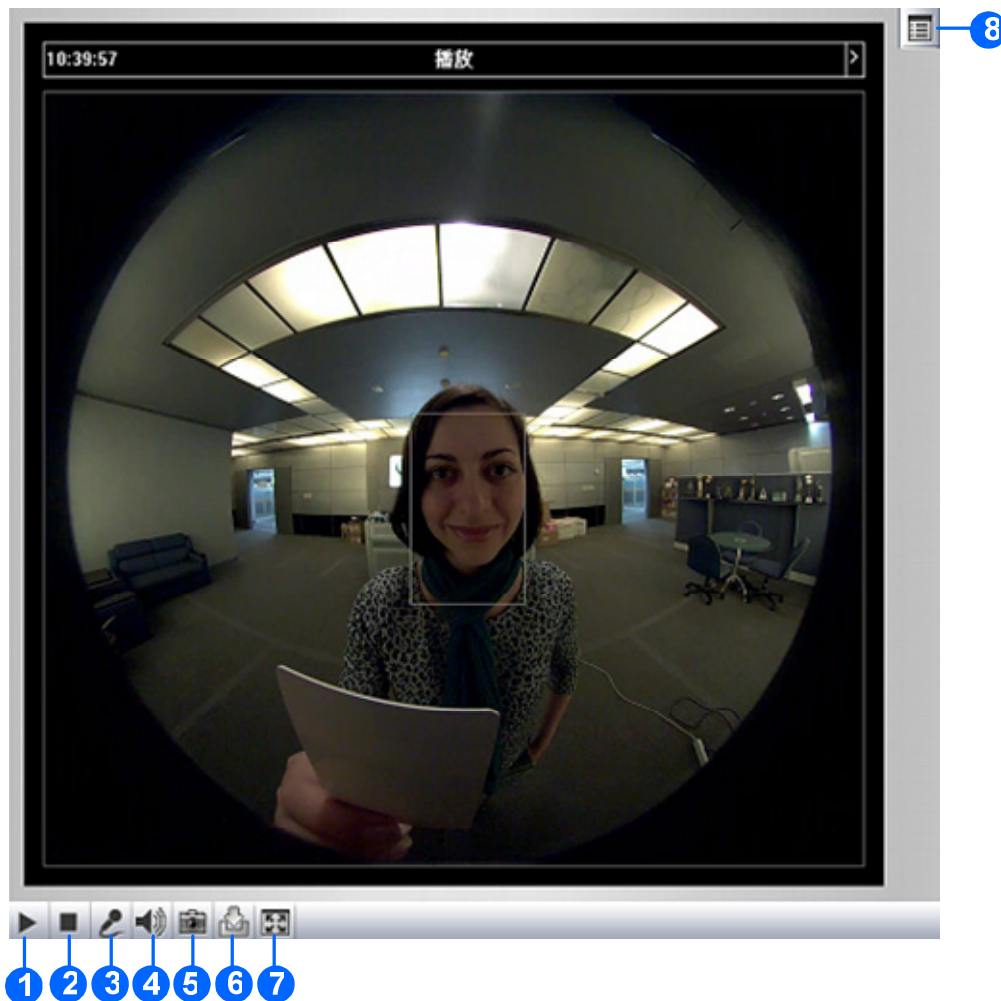

Figure 4-3
1. Click the **Snapshot** button (No. 5, Figure 4-3). The Save As dialog box appears.
1. Click the **File Save** button (No. 6, Figure 4-3). The Save As dialog box appears.
4. To stop recording, click the **Stop** button (No. 2, Figure 4-3).
To configure this function, click the **Show System Menu** button (No. 8, Figure 4-3), and select **Alarm Notify**. This dialog box appears.
Click the **Show System Menu** button (No. 8, Figure 4-3), and select **Video and Audio Configuration**.
You can upgrade firmware over the network in Remote Configuration. Click the **Show System Menu** button (No. 8, Figure 4-3), and select **Remote Config**. The Remote Config dialog box will appear.
To display the camera name on the image, click the **Show System Menu** button (No. 8, Figure 4-3), and select **Show Camera Name**.
To enhance the image quality of live video, click the **Show System Menu** button (No. 8, Figure 4-3), and select **Image Enhance**. This dialog box appears.